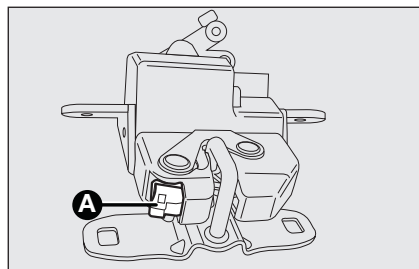

fig. 44
**OPENING THE TAILGATE IN AN EMERGENCY fig. 44**